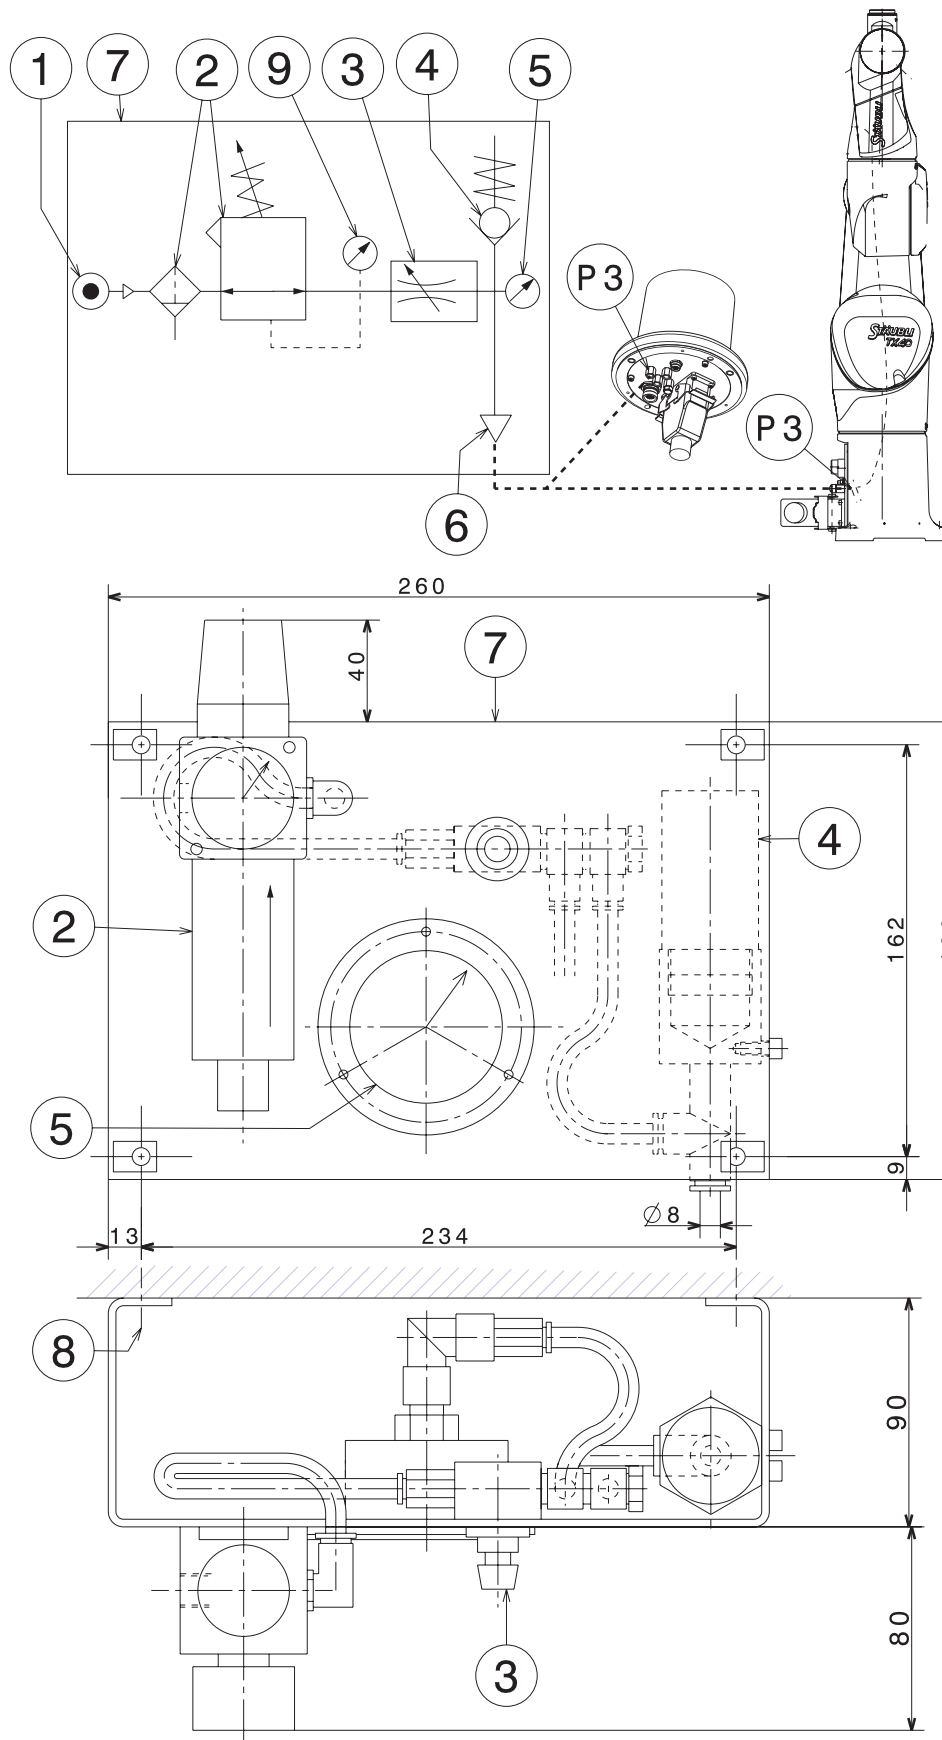

Figure 2.19
2.9.2. INSTALLATION (figure 2.19)